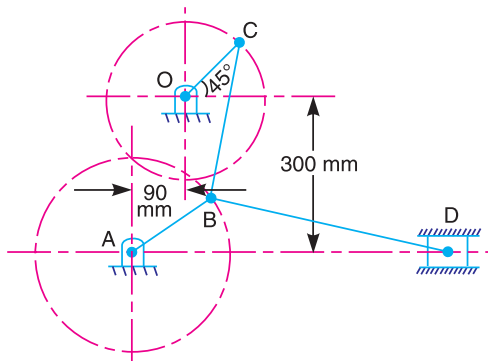

Fig. 8.42
7. In the toggle mechanism, as shown in Fig. 8.42, D is constrained to move on a horizontal path. The dimensions of various links are : $AB = 200 \text{ mm}$; $BC = 300 \text{ mm}$; $OC = 150 \text{ mm}$; and $BD = 450 \text{ mm}$.